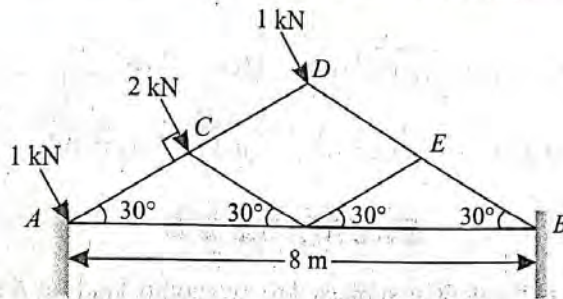

Fig. 9.35.
**Example 9.18.** Fig. 9.35 shows a roof truss with both ends fixed. The truss is subjected to wind loads, normal to the main rafter as shown in the figure.